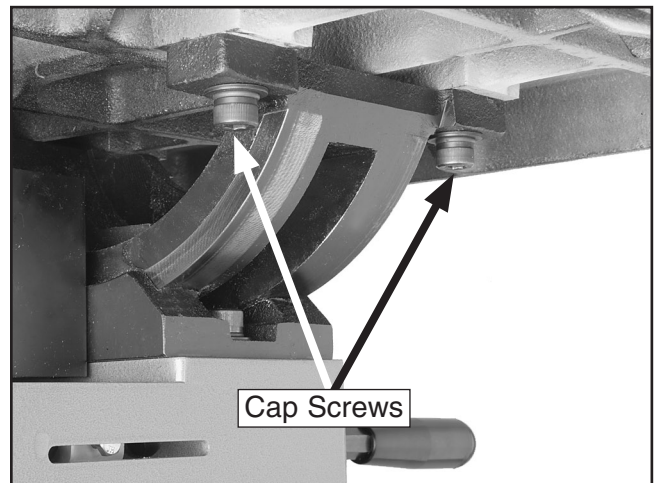

Figure 31. Cap screws securing table to trunnion.
3. Loosen the four trunnion cap screws that secure the table to the trunnions (**Figure 31**).